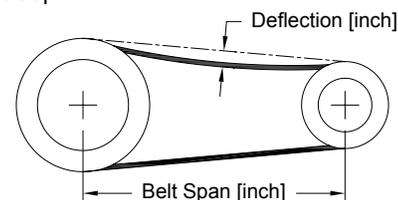

Figure 8 - Belt Tension
2. Adjust the motor plate until proper tension is reached. For proper tension, a deflection of approximately 1/60" per inch of center distance should be obtained by firmly pressing the belt. Refer to Figure 8.